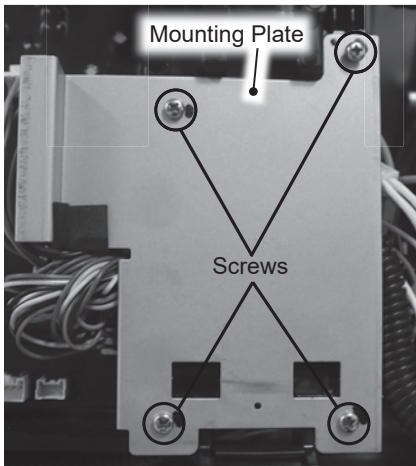

Figure 51 - Mounting plate screw removal.
- 16** Locate the four (4) screw securing the metal mounting plate. See Figure 51. Use a Phillips screwdriver to remove the screws. Place screws and mounting plate aside in a safe place for reinstallation.